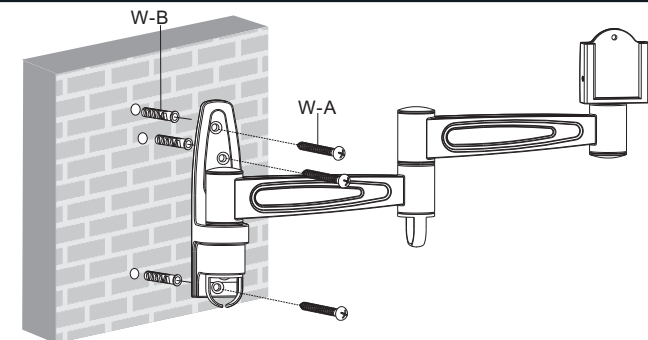

fig. 1.3
- Pre-drill these holes with a 8mm masonry bit to at least 50mm in depth. Insert a Concrete Anchor (W-B) into each of these holes. Attach the Wall Plate to the wall using three wood screws (W-A), as shown in fig. 1.3.